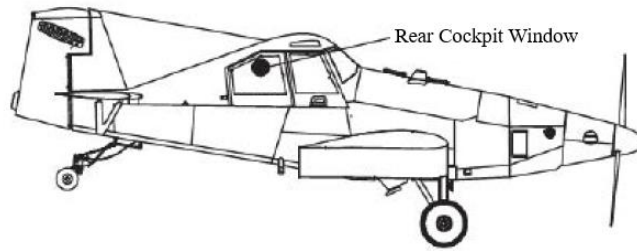

Figure 12: Location of Dual Cockpit Aft Door Window
1. Locate rear cockpit window (R/H) as shown in Figure 12.